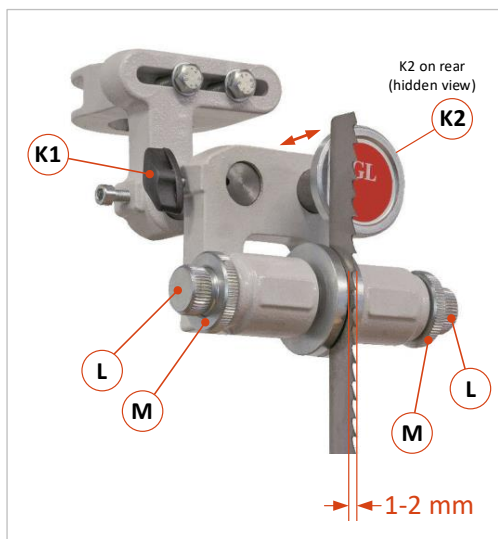

Figure 22: Adjusting the GL saw blade guides
- Loosen the lock nuts (M) of the two side bearing sleeves (L).
- Adjust the two side rollers with the side bearing sleeves (L) outwards so that a newly placed saw blade can run freely between them.
- Loosen the tommy screw (K1) and adjust the complete guide on the support bolt (B) by moving it so that the front edges of the side rollers are approx. 1 - 2 mm behind the tooth base of the saw blade (see ⇒ Figure 22).